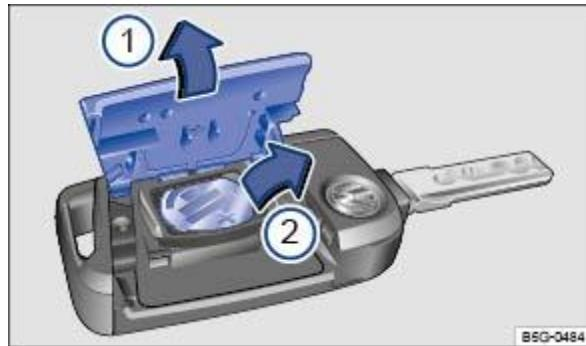

Fig. 51 Vehicle key: replacing the button cell.
Key to ⇒ Fig. 51 :
Lever off the cover ⇒ Fig. 51① ⇒ .
Lever the button cell out of the battery compartment ⇒ Fig. 51② .
Press the cover onto the housing ⇒ Fig. 51① .